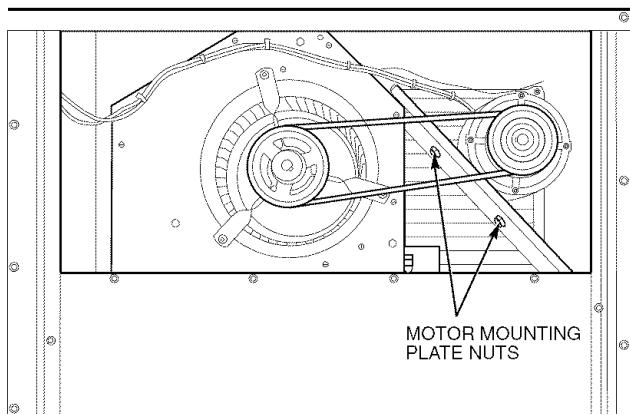

Fig. 38 — Typical Belt-Drive Motor Mounting for Size 008 and 009
2. Loosen the belt by loosening the fan motor mounting nuts. See Fig. 38 and 39.
2. *Size 008 and 009* — Slide the motor mounting plate away from the fan scroll for proper belt tension ($\frac{1}{2}$ -in. deflection with 8 to 10 lb of force) and tighten the mounting nuts (see Fig. 38).